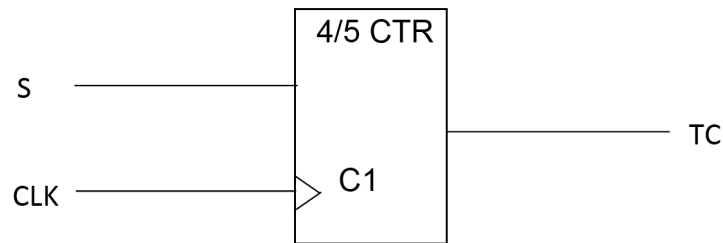

Figure 1.2
- (d) Write in Verilog HDL the behavioural description of a synchronous counter circuit as shown in *Figure 1.2*, with an input S and an output TC. TC goes high for one clock cycle in every 4 cycles of the clock signal CLK if S=0, and in every 5 cycles of CLK if S=1.